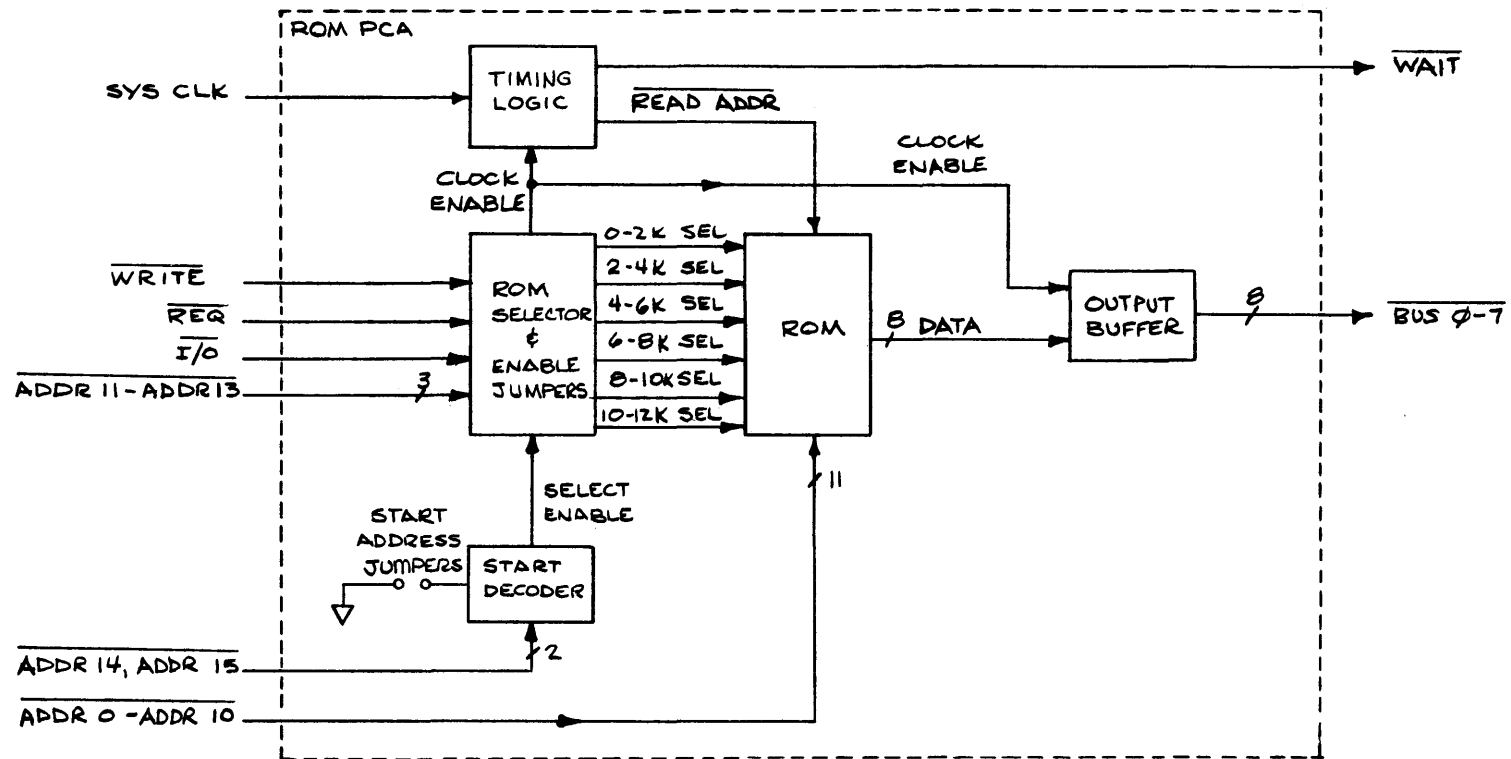
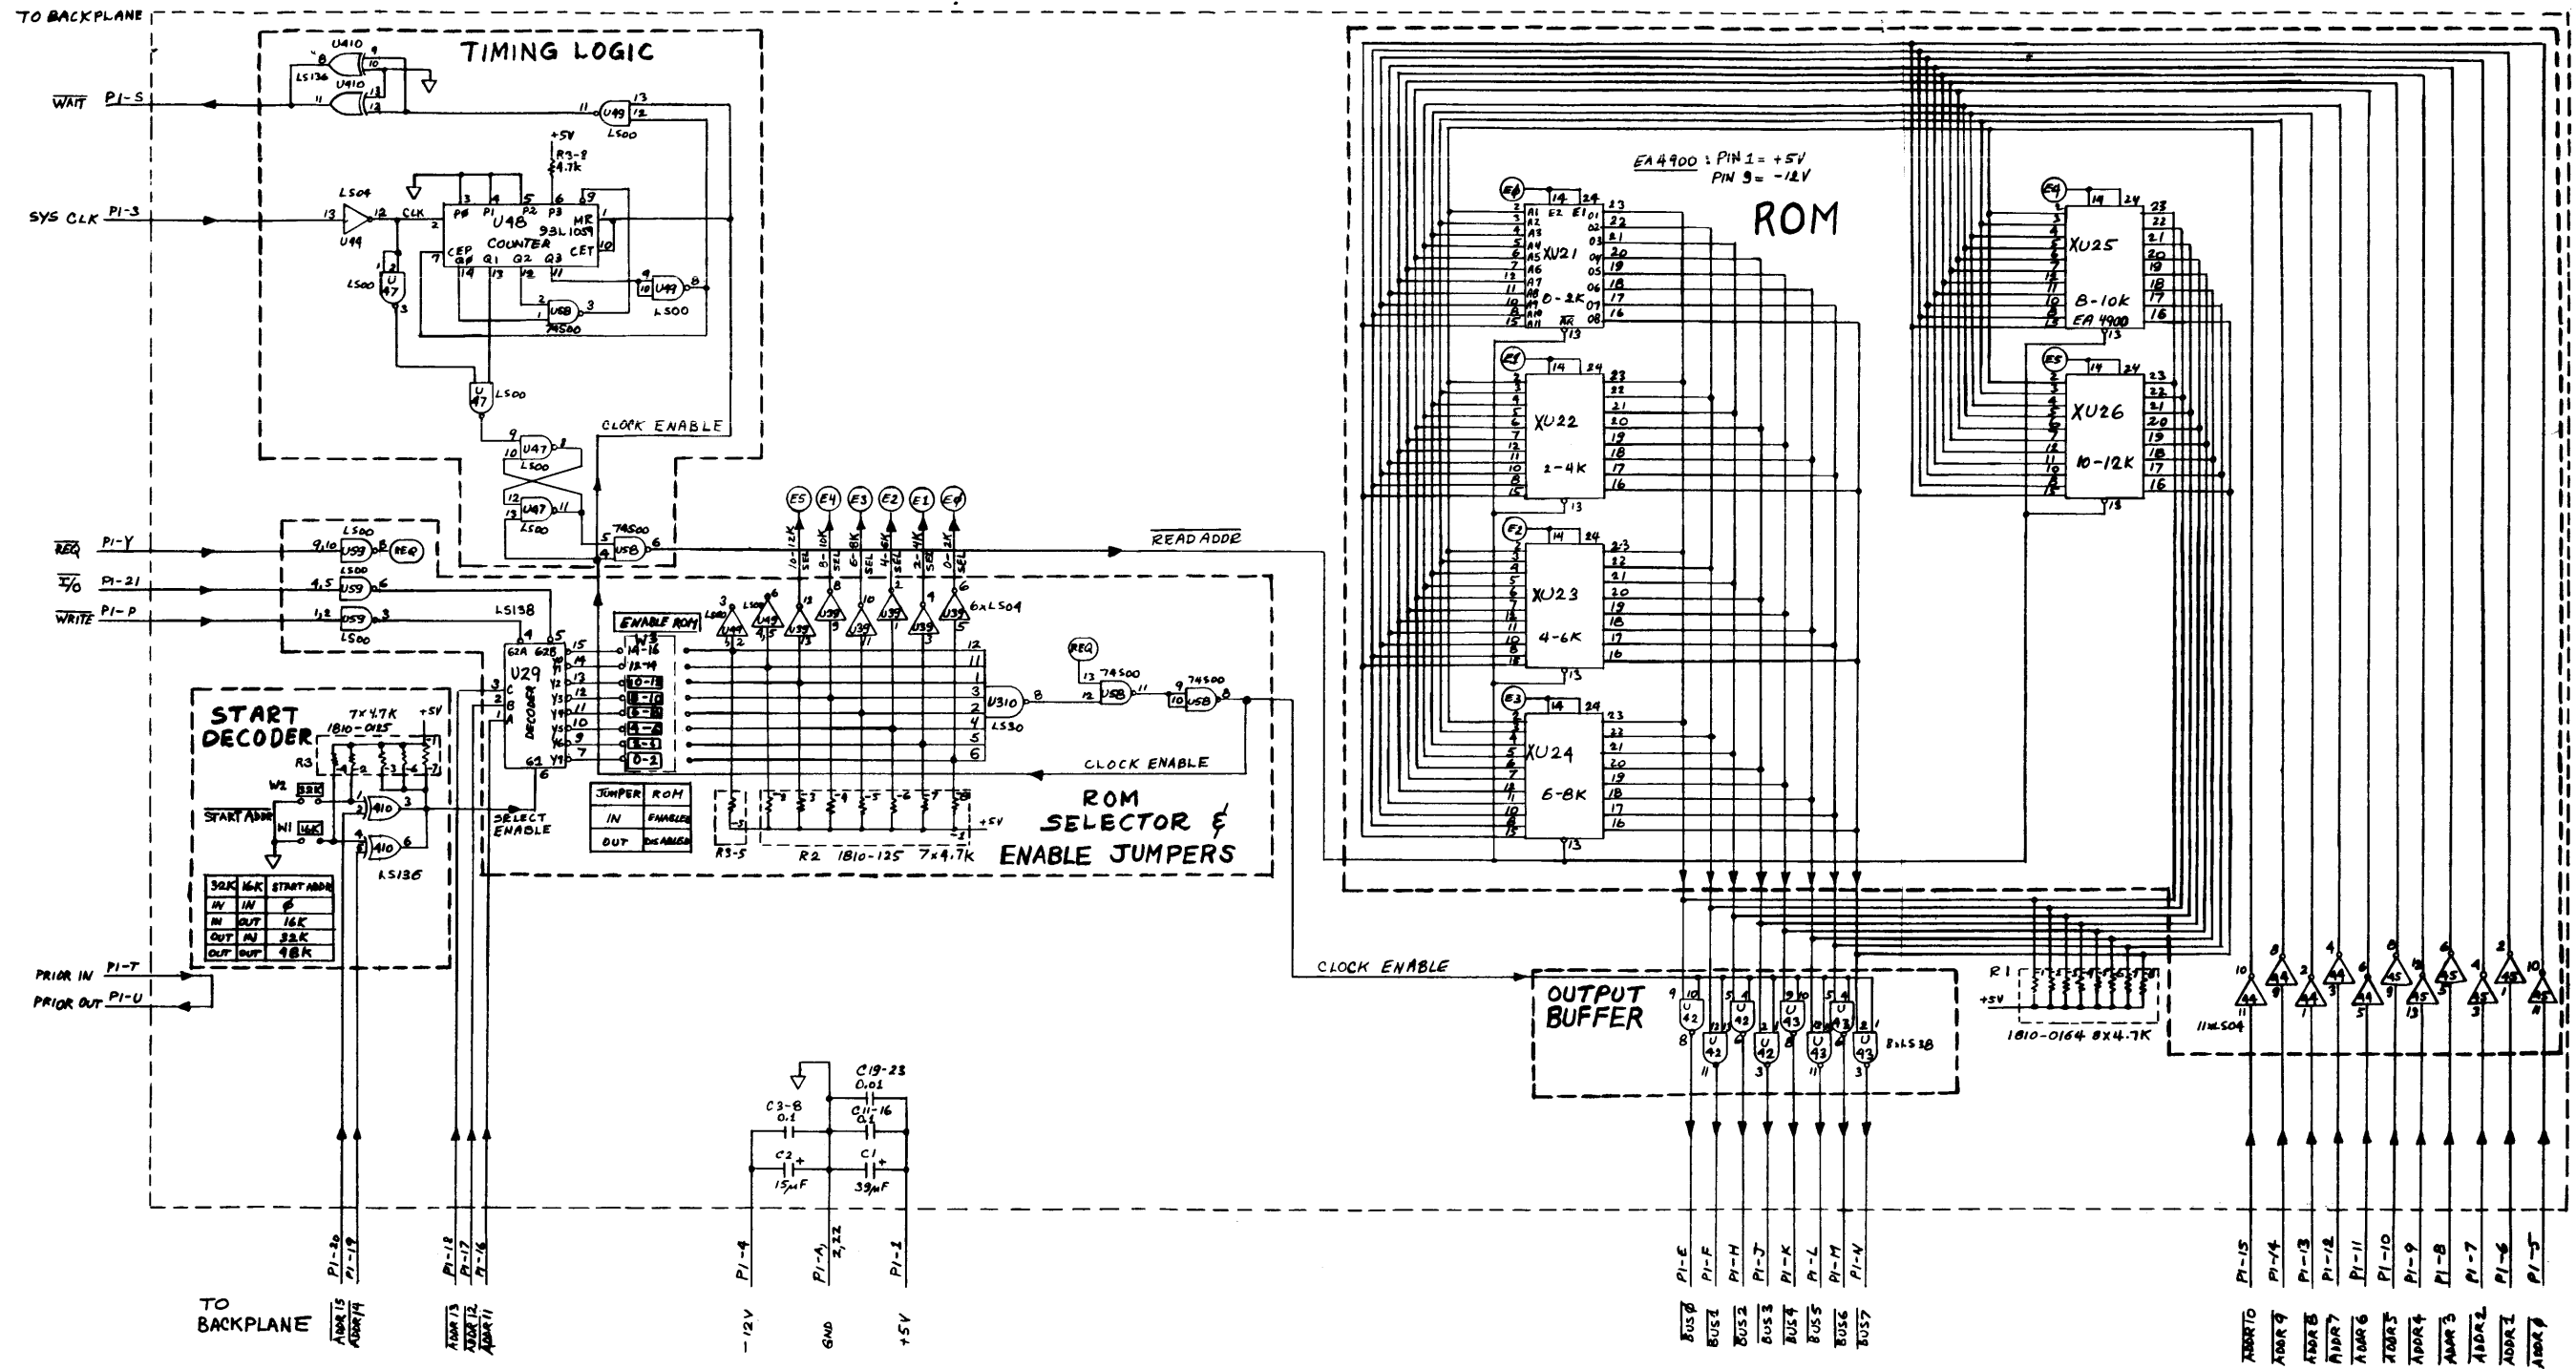
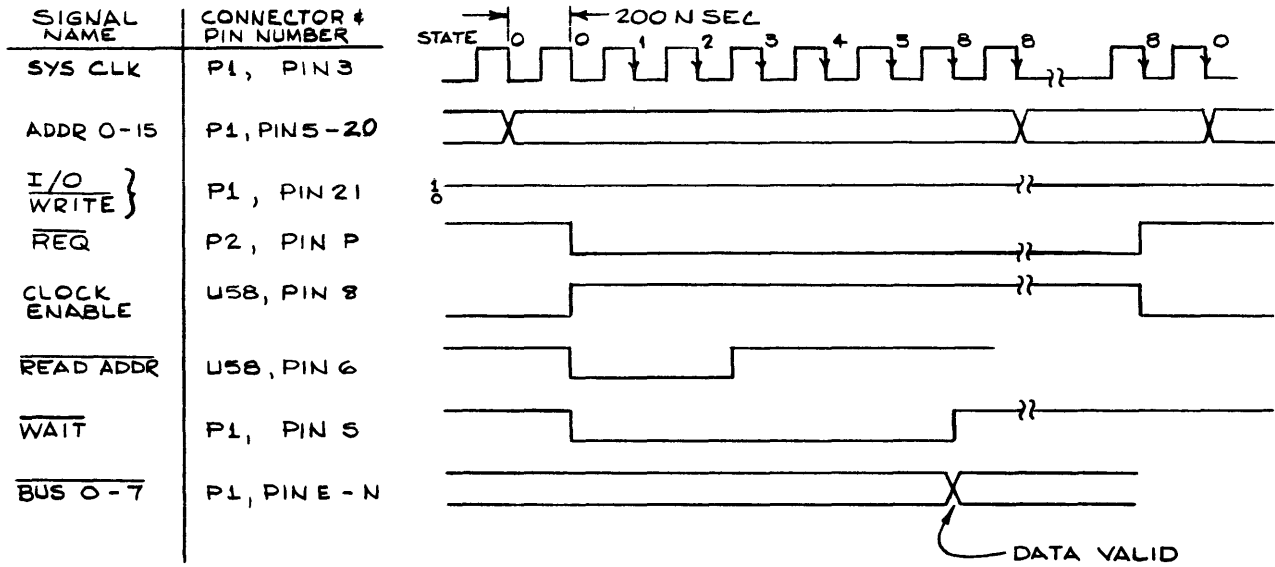
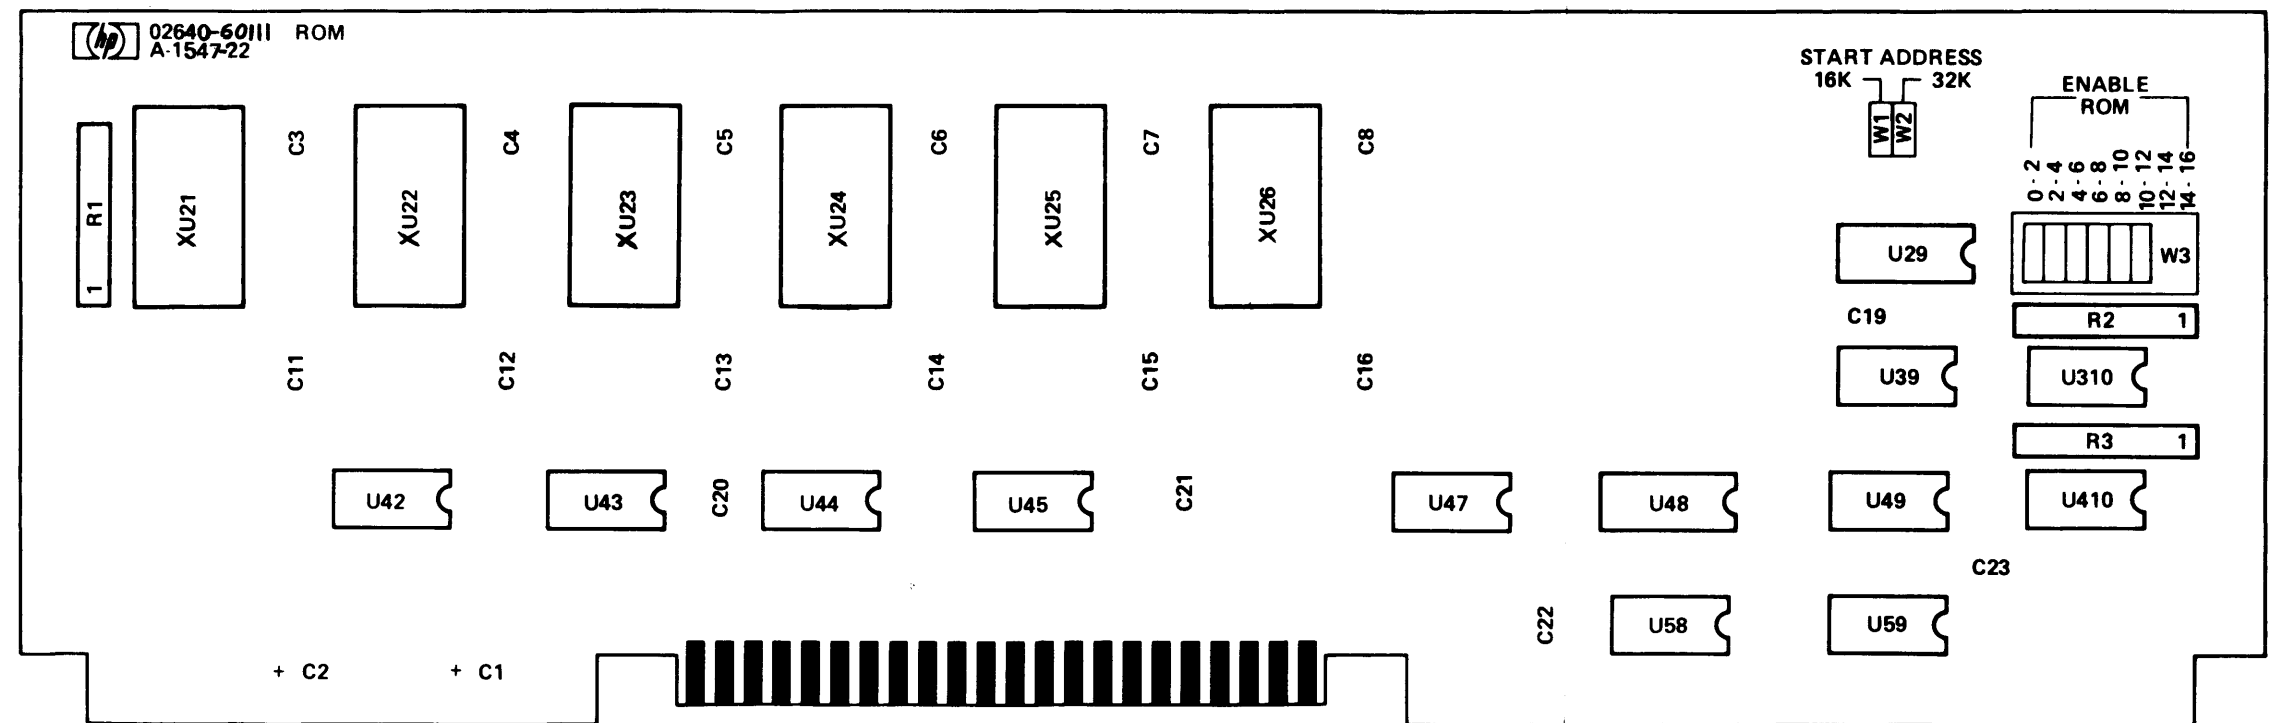

Figure 1
Figure 2
Figure 3
Figure 4
3.0 FUNCTIONAL DESCRIPTION. Refer to the block diagram (figure 1), schematic diagram (figure 2), timing diagram (figure 3), component location diagram (figure 4), and parts list (02640-60111) located in the appendix.
signals \overline{REQ} , $\overline{I/O}$, \overline{WRITE} and $\overline{ADDR11}$ through $\overline{ADDR15}$ generate the CLOCK ENABLE signal that enables the 93L1059 counter (U48). The counter advances to the states labeled in the timing diagram in figure 3 on the clock edges indicated by arrows. When \overline{REQ} is asserted, $\overline{READ ADDR}$ and \overline{WAIT} go low. State 2 of the counter and the positive half of SYS CLK terminate the $\overline{READ ADDR}$ signal. On the sixth clock, the counter is preset to state 8 and \overline{WAIT} is terminated. By that time ROM data byte ($\overline{BUS0}$ through $\overline{BUS7}$) is valid. When \overline{REQ} is dropped, CLOCK ENABLE is terminated and the output buffer is disabled.